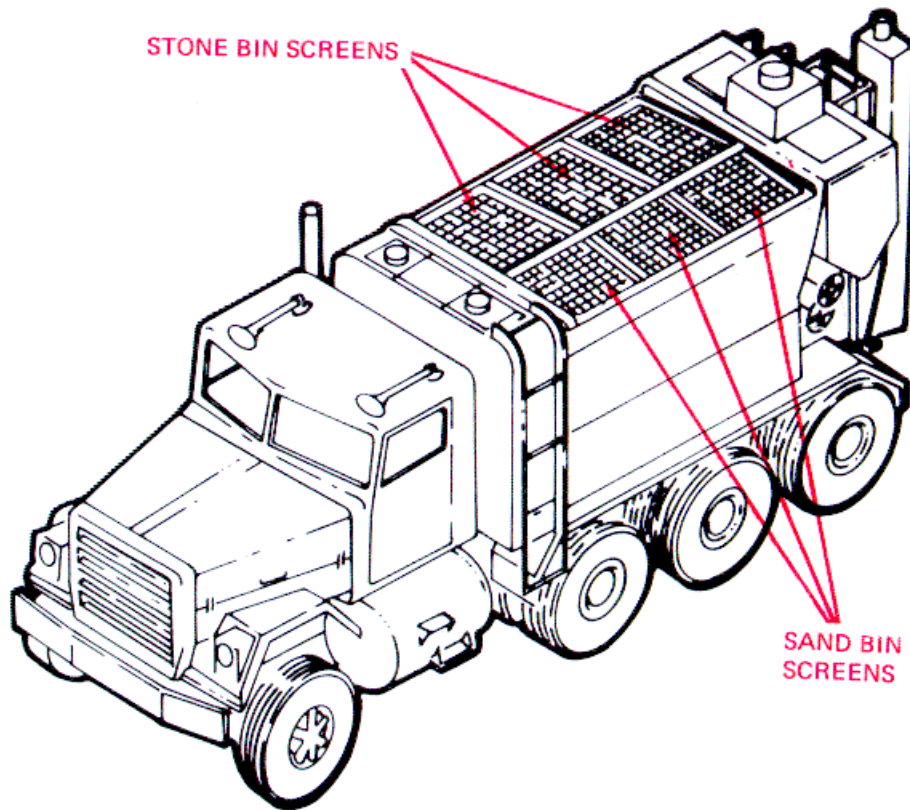

Figure 2-17. Loading the Aggregate Bins.
- b. Use a front-end loader to dump the sand through the screens into the sand bin. These screens keep large rocks and other foreign matter out of the bin (fig. 2-17).